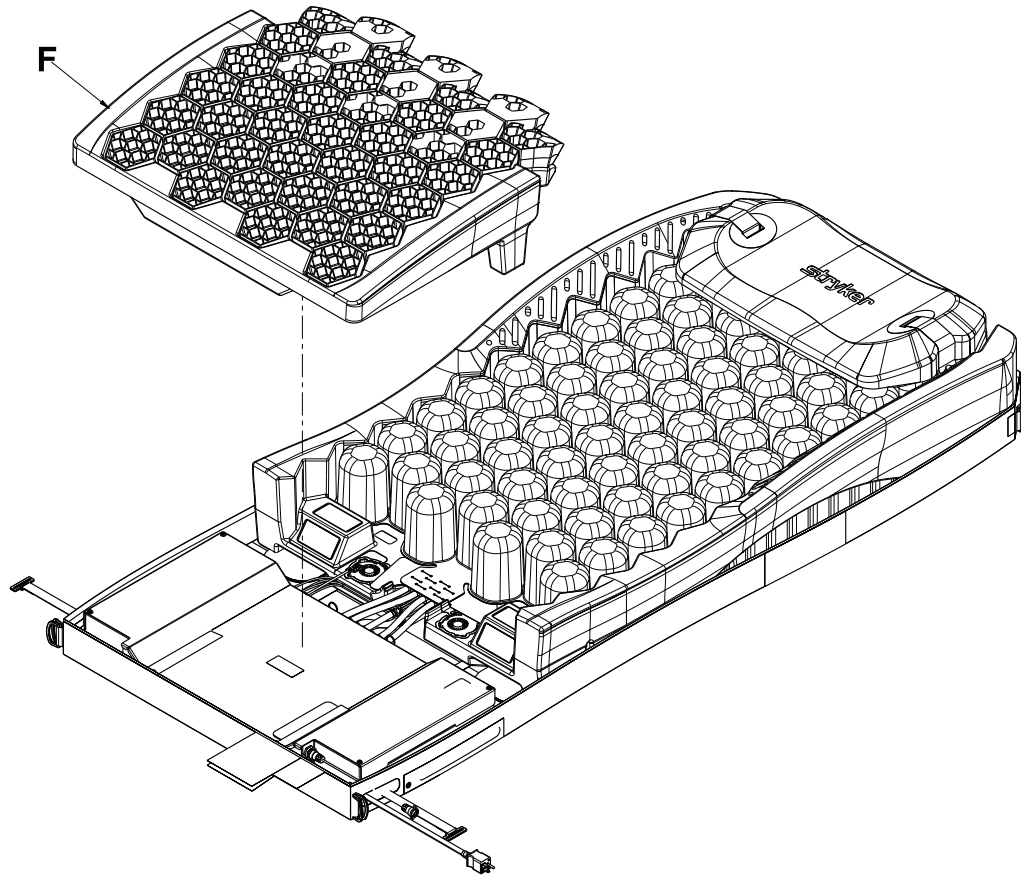

Figure 1-32: Gel crib
3. Remove the foot section gel crib (F) (Figure 1-32 on page 1-61). Save the gel crib.